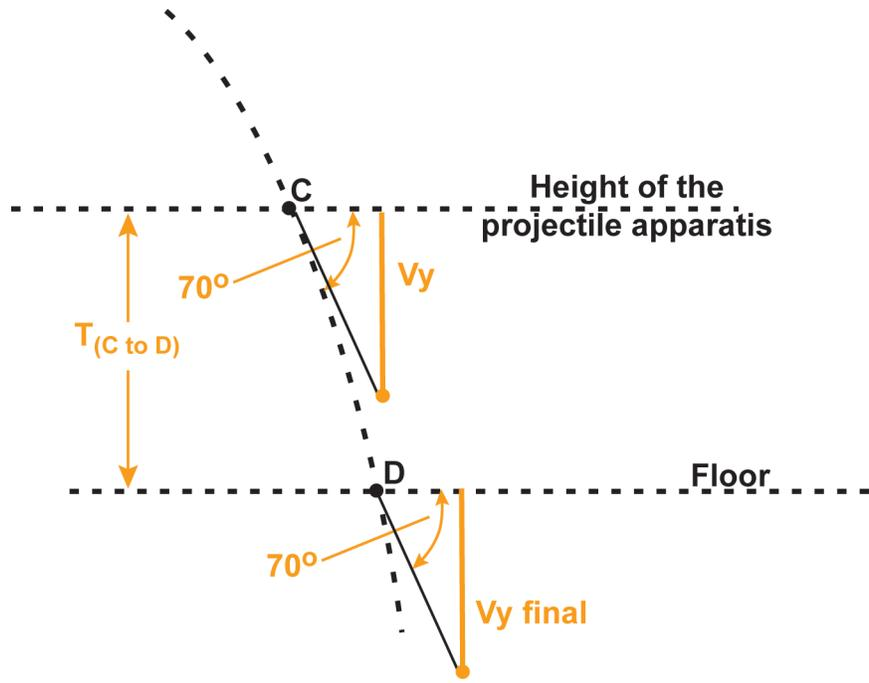

Figure 17
- 1. So far we only know the total flight time. However, we can calculate the time it took for the ball to fall to the ground from point C to point D. See Figure 17. Use the vertical components of the velocities. Enter the value of t (C to D) in Data Table 7 of your Student Journal.